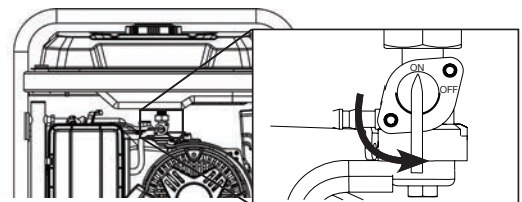

Figure 9 - Fuel Shut Off - ON
- ① Circuit Breaker Operating Position
- ② Circuit Breaker Tripped Position
5. Move the fuel shutoff valve to the **ON** position (see Figure 9).